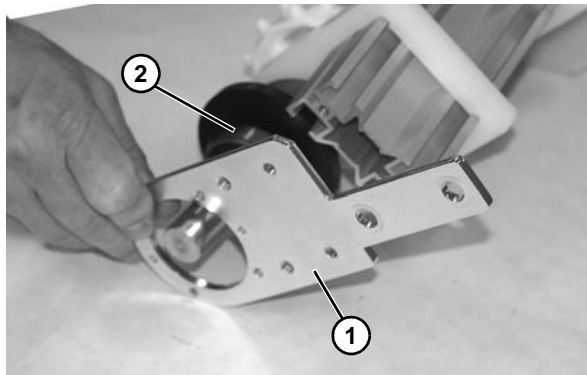

Figure 54
10. Remove drive backing plate (**Figure 54, item 1**) from assembly.
11. Remove drive spindle assembly (**Figure 54, item 2**) from assembly.